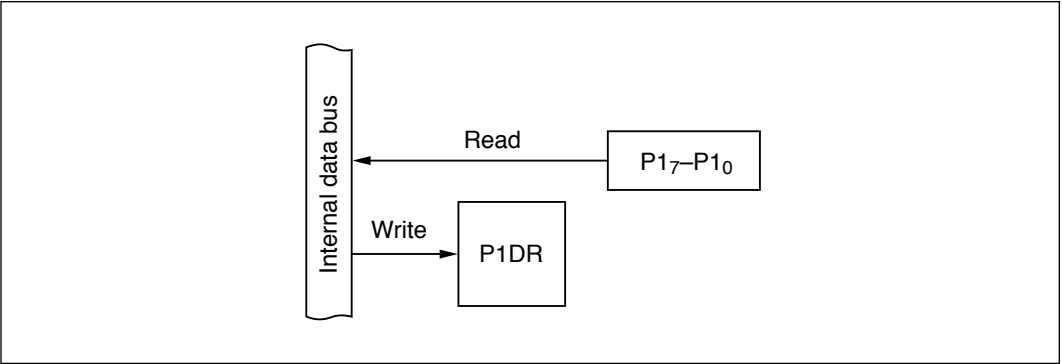

Figure 9-6 Input Port (Mode 7)
(2) Input Port (Mode 7): Figure 9-6 shows a block diagram illustrating the general-purpose input function. Table 9-4 indicates register read/write data. Values written in the port 1 data register (P1DR) have no effect on general-purpose input lines. When read, P1DR returns the value at the pin.